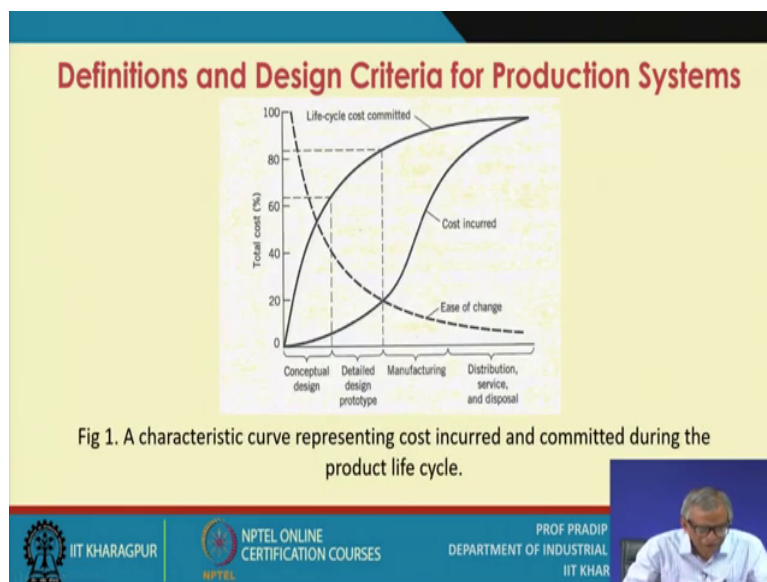

Fig 1. A characteristic curve representing cost incurred and committed during the product life cycle.
- Consequently, they are responsible for the lion's share of life-cycle cost as shown in Figure. 1